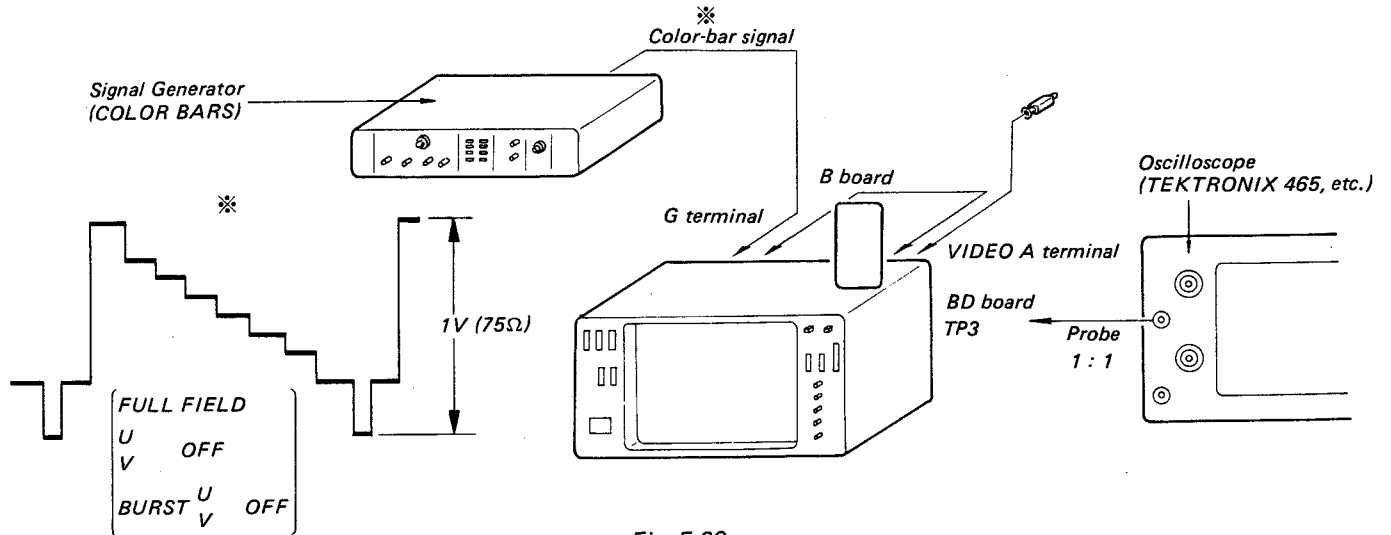

Fig. 5-60.
1. Complete the connections as shown in Fig. 5-60.